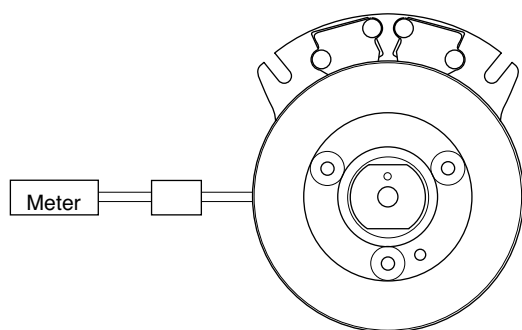

Figure 5
Step 1. How to Measure Clutch Coil resistance (See Figure 5)